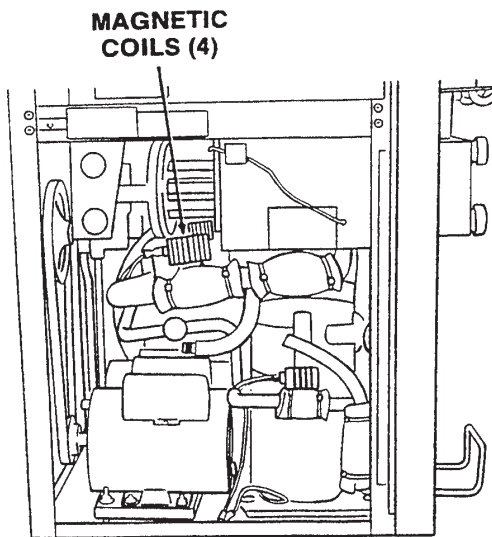

Figure 47. Solenoid Replacement
2. Identify (mark) and disconnect the electrical wires (Figure 47).